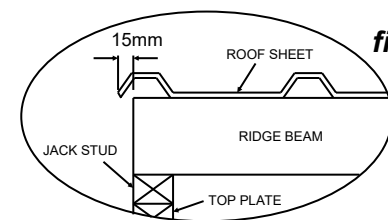

fig. 3
- Position the first Roof Sheet so that the top of the sheet is at the centre of the Ridge Beam and the side of the sheet over hangs the end of the Ridge Beam (fig. 3). Using 1 x 50mm Clout, pre-drill and nail through the rib into the top corner. Repeat above and nail the lower corner ensuring 15mm overhang.